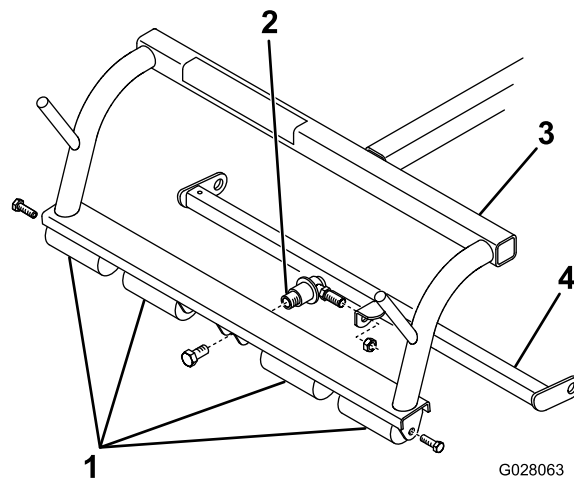

Figure 1
2. Remove the pull frame and attaching ball joint; refer to Figure 1.